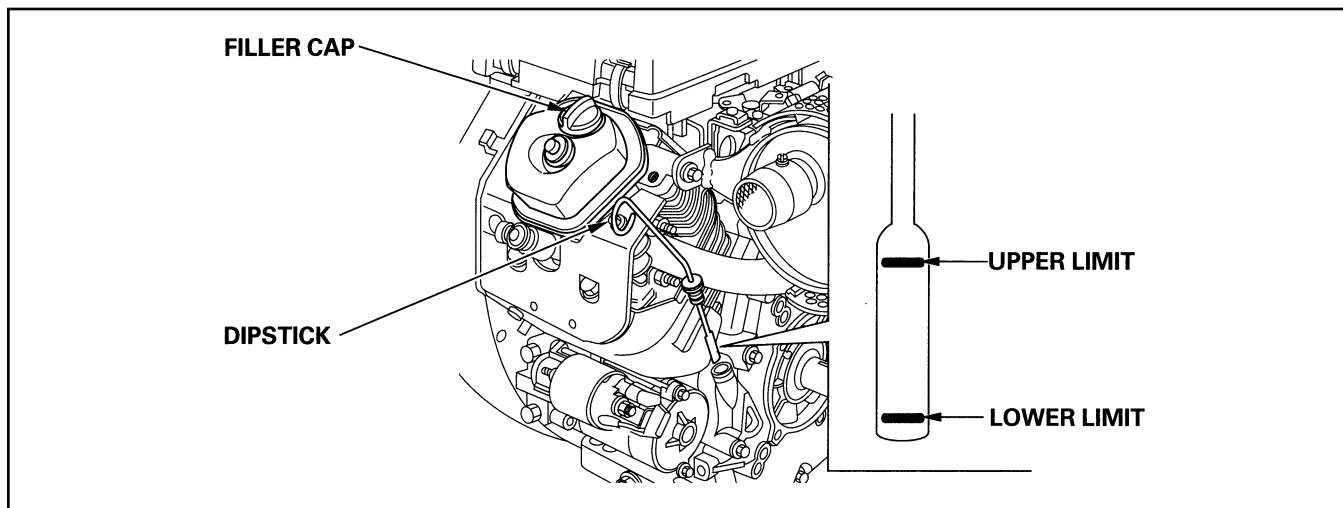

FIGURE 4-1. OIL LEVEL CHECK
1. Remove the dipstick (see Figure 4-1), wipe it clean, screw the cap back on and then remove it again to check the oil level on the dipstick.